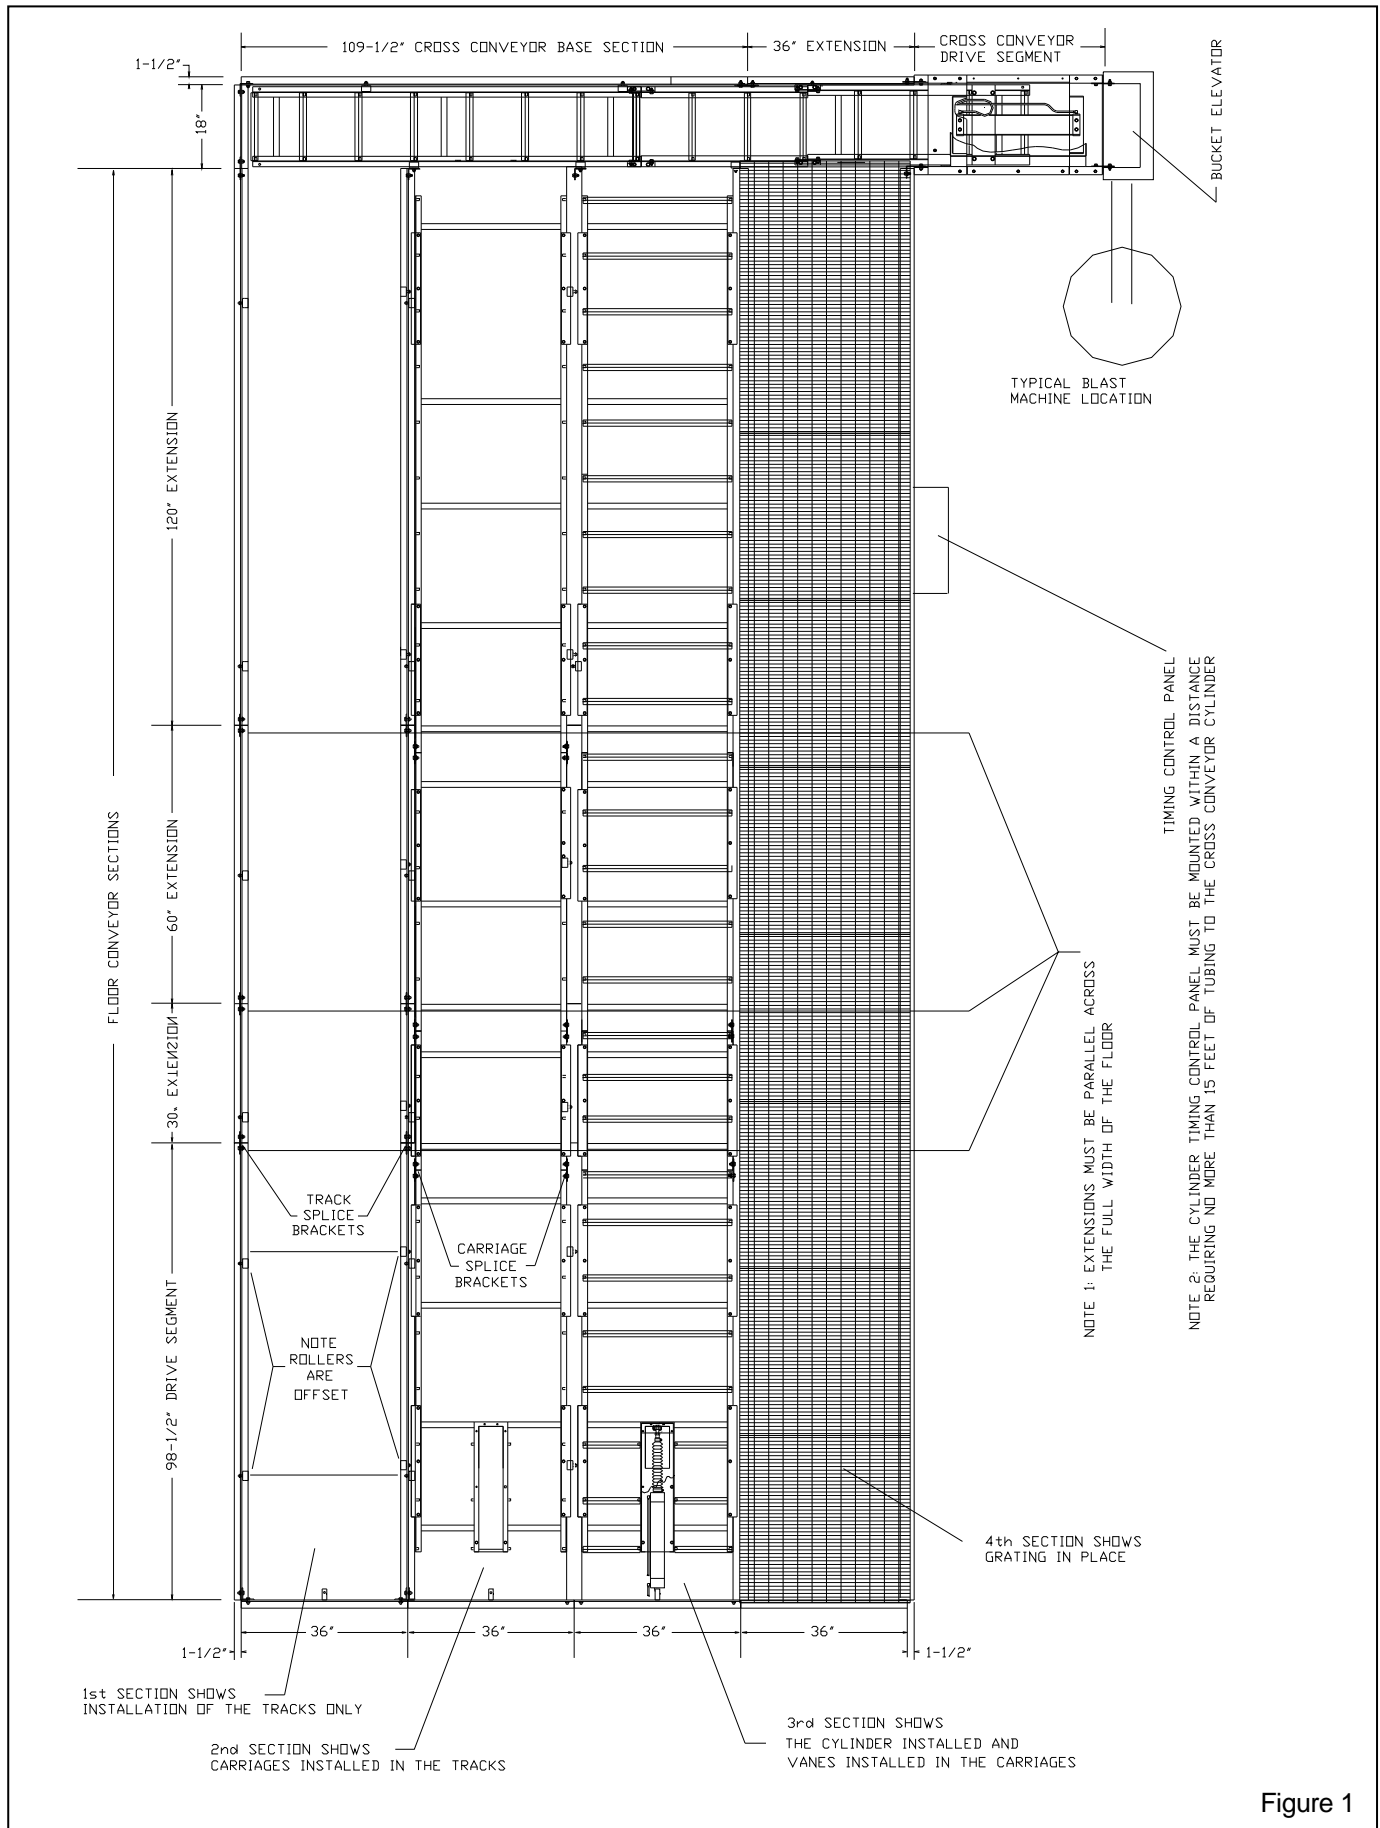

Figure 1
1.3.1 The Flat-Trak® recovery floor comprise of three to ten modular floor conveyor sections, and one modular cross conveyor. See Figure 1 for a typical sample arrangement. In operation, the floor conveyor sections feed abrasive to the cross conveyor. The cross conveyor moves abrasive to the bucket elevator, or customer's equipment modified to interface with the Flat-Trak®.
2.1.2 When both short and long conveyor extensions are used, the shorter extensions should be located between two longer extensions. See the example shown in Figure 1. The 30-inch and 60-inch extensions are placed between the longer drive section and 120-inch extension.
2.1.3 Extensions can be placed in any order; however, the same sequence must be used on all floor sections. See Note 1 in Figure 1.
2.1.8 The electro/pneumatic cylinder control panel(s) must be accessible to an air supply line and electrical source, and located to enable installation of poly tubing air lines to run from the panel to each air cylinder. One cylinder is used on each floor conveyor section, and cross conveyor section. The panel must be located within a distance to require no more than 15 feet of tubing to the cross conveyor cylinder. See note # 2 and the typical arrangement in Figure 1.
2.3.1.1 The typical layout used in Figure 1 is used in all floor illustrations in this manual. It is only a sample floor layout. Since the Flat-Trak® is modular in design; the floor supplied may vary in size.
2.3.1.3 Use the typical layout in Figure 1 to determine the final position for the elevator, blast machine, cylinder control panels, starter control panel, blast room doors, etc. Make sure space is available for all accessories, and that the floor cross conveyor drive section ends at the elevator inlet.